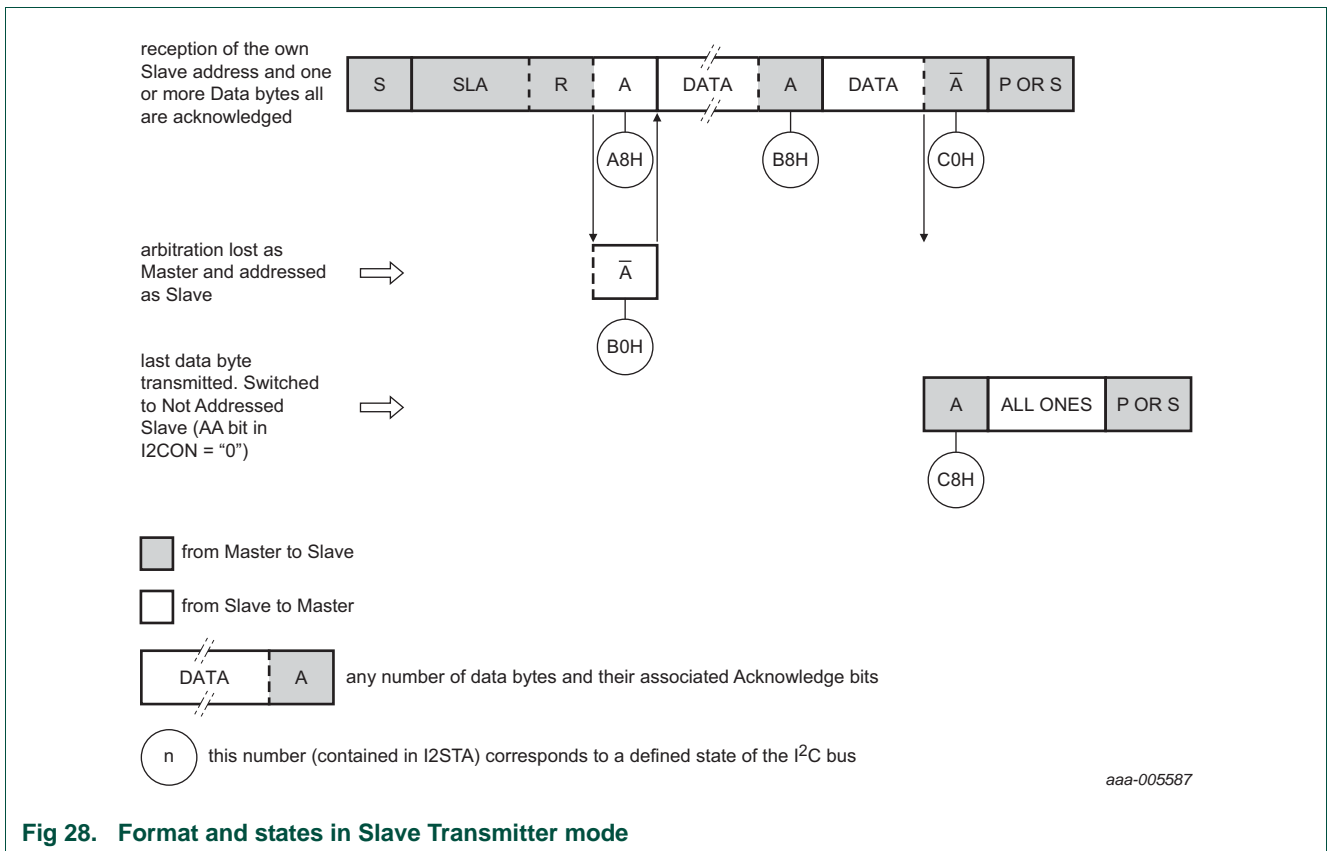

Fig 28. Format and states in Slave Transmitter mode
In the slave transmitter mode, a number of data bytes are transmitted to a master receiver (see Figure 28). Data transfer is initialized as in the slave receiver mode. When ADR and CON have been initialized, the I2C block waits until it is addressed by its own slave address followed by the data direction bit which must be “1” (R) for the I2C block to operate in the slave transmitter mode. After its own slave address and the R bit have been received, the serial interrupt flag (SI) is set and a valid status code can be read from STAT. This status code is used to vector to a state service routine, and the appropriate action to